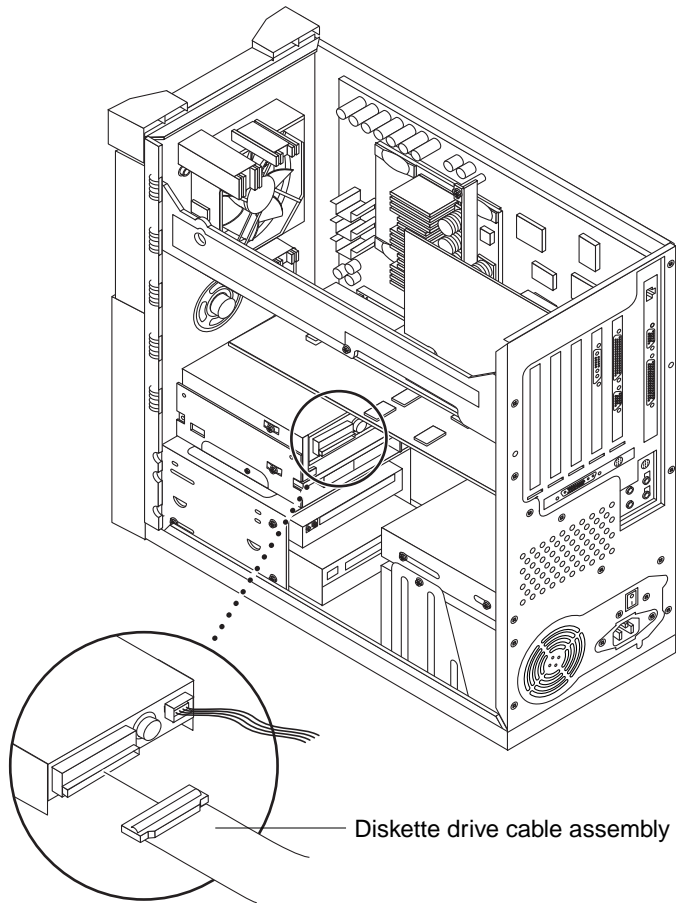

FIGURE 6-2 Removing and Replacing the Diskette Drive Cable Assembly
2. **Remove the diskette drive cable assembly connectors from the following (FIGURE 6-2):**
1. **Replace the diskette drive cable assembly as follows (FIGURE 6-2):**